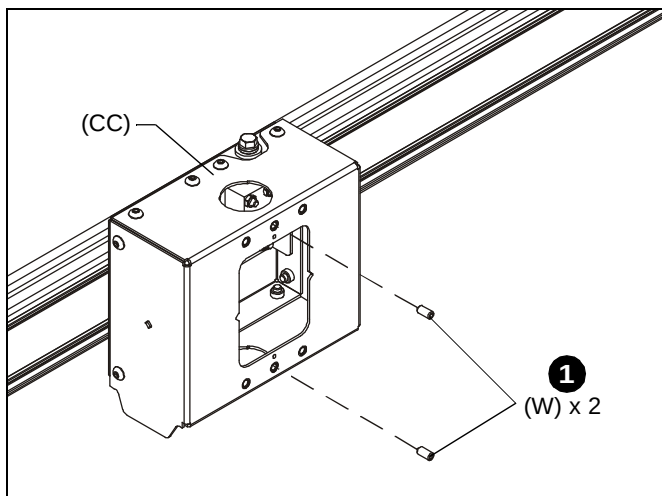

Figure 1
1. Insert two 5/16 x 3/4" set screws (W) into back of ceiling mount (CC). (See Figure 1)